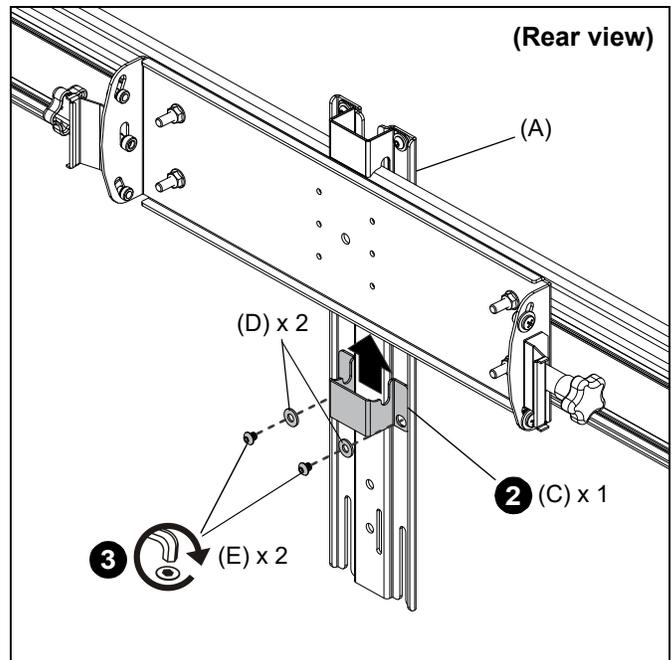

Figure 8
2. Slide center rail bracket (C) underneath head assembly, lining up holes on rail bracket to holes on upright assembly (A). (See Figure 8)
3. Reinstall two 1/4-20 x 1/4" button head cap screws (E) and two small washers (D) to secure center rail bracket (C) to upright assembly (A). (See Figure 8)